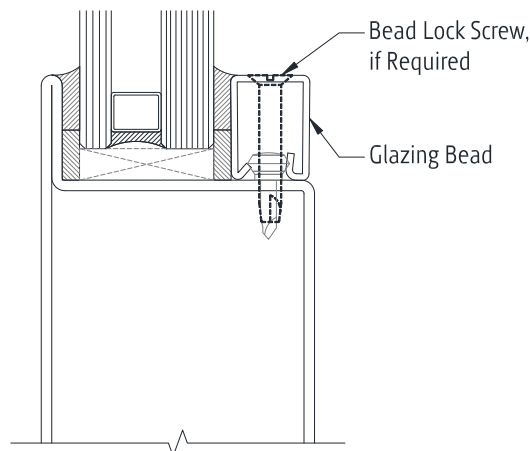

Figure 18 - Install Bead Lock Screws
- 6.7 Install bead lock screws into glazing bead (Figure 18).